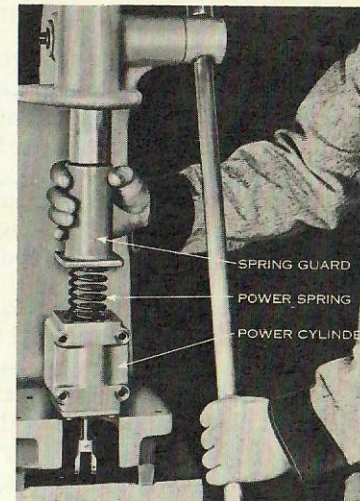

FIG. 20-1
2. Remove spring guard. Place servomotor in arbor press. Hold guard in place with press while removing four screws. Steady spring guard with one hand while gradually releasing press. See Fig. 20-1. The guard compresses a powerful spring. Care must be used in its removal.